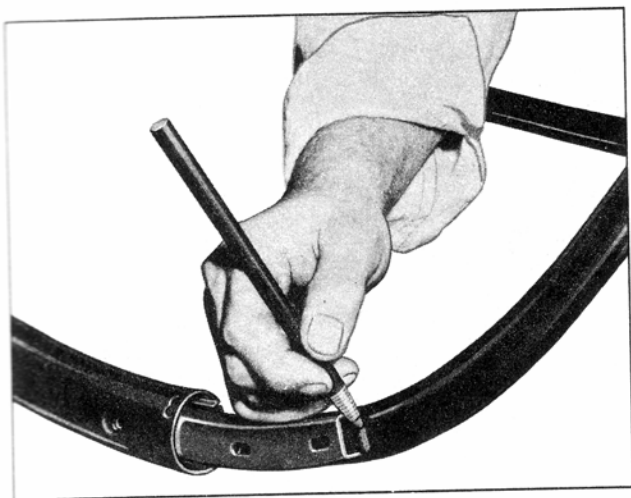

Fig. 5—Marking Position of Upper Frame
5. To ease alignment of frame pieces during reassembly, mark position of end of upper frame on rubber channel as shown in Figure 5.